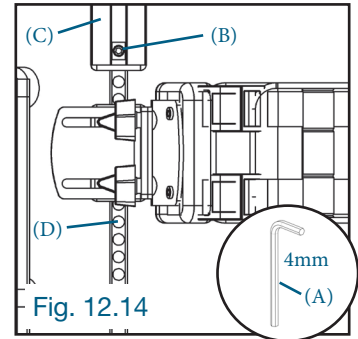

Fig. 12.14
12.14 FOOTREST ADJUSTMENT – STANDARD AND MOBILE MODELS Height Adjustment (Fig. 12.14)